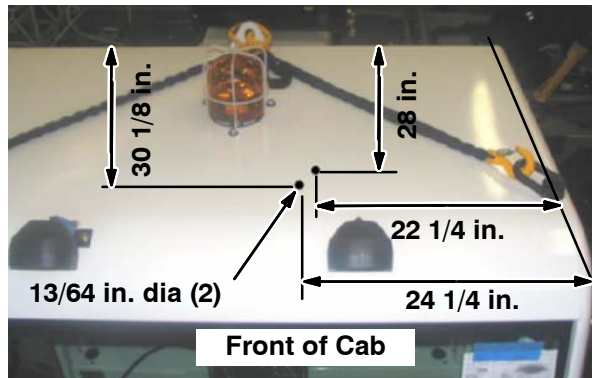

FIG. 3
4. Drill two 13/64 in. holes into the top of the cab. Drill completely through both the cab and the insulation inside the cab. Refer to Fig. 3.
5. Use an M6 X 1.0 tap to tap the holes drilled into the cab in the previous step. Refer to Fig. 3.